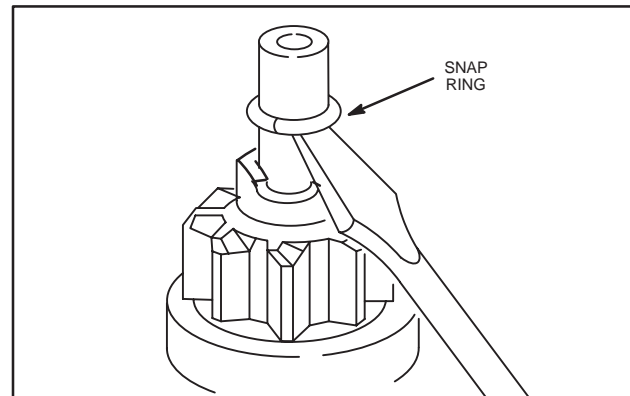

Fig. 54 – Removing Snap Ring
7. Pry off snap ring using small screw driver, Fig. 54.